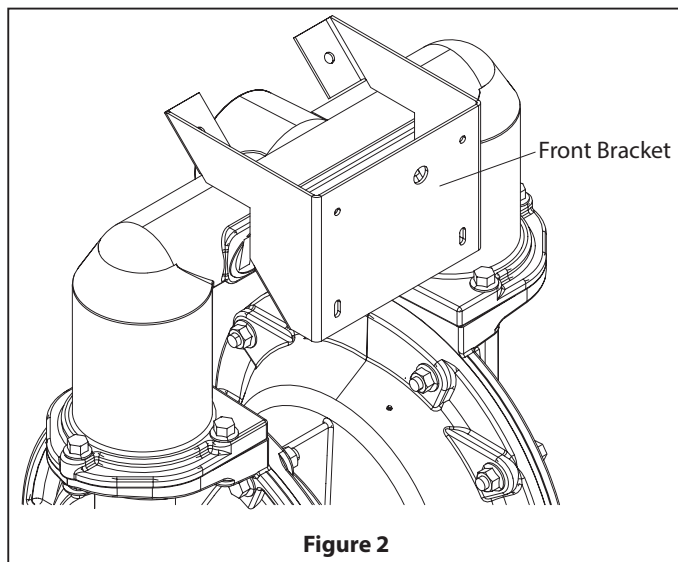

Figure 2
1. Attach the front bracket to the top manifold of the pump, making sure the vertical edge of the bracket is against the flat side of the manifold (where ARO logo is). See Figure 2.